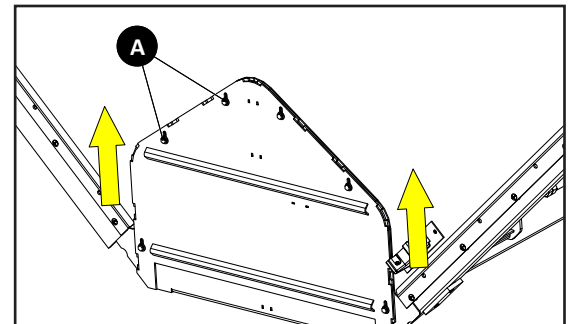

Figure 1
Figure 1 - Loosen six cap screws (A) and push feedgate assembly upwards in slots. Tighten cap screws to ensure feedgate does not interfere when installing insert.